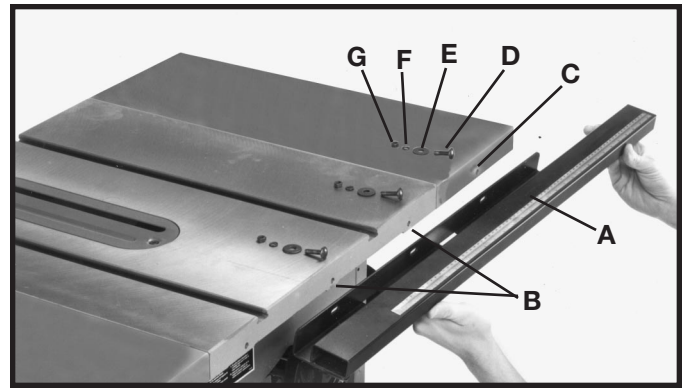

Fig. 14
1. Align the three slotted holes in the front right guide rail (A) Fig. 14, with two holes (B) in saw table and slotted hole (C) in extension wing. Insert a M6x1x20mm carriage head screw (D) Fig. 14, through the three holes in the front right guide rail, and the saw table. Place a M6.4 flat washer (E), and a 6.1 lockwasher (F) onto the carriage head screw (D). Thread a M6x1 hex nut (G) onto the carriage head screw (D) and hand tighten only. **NOTE: TIGHTEN HARDWARE JUST ENOUGH TO HOLD RAIL IN PLACE AT THIS TIME.**